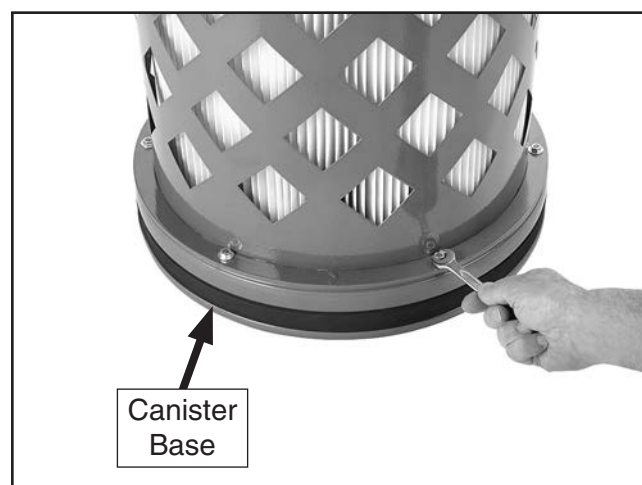

Figure 74. Removing the hex nuts and flat washers from the rim of the canister base.
5. Remove the six hex bolts, hex nuts, and flat washers from the rim of the canister base, as shown in **Figure 74**.